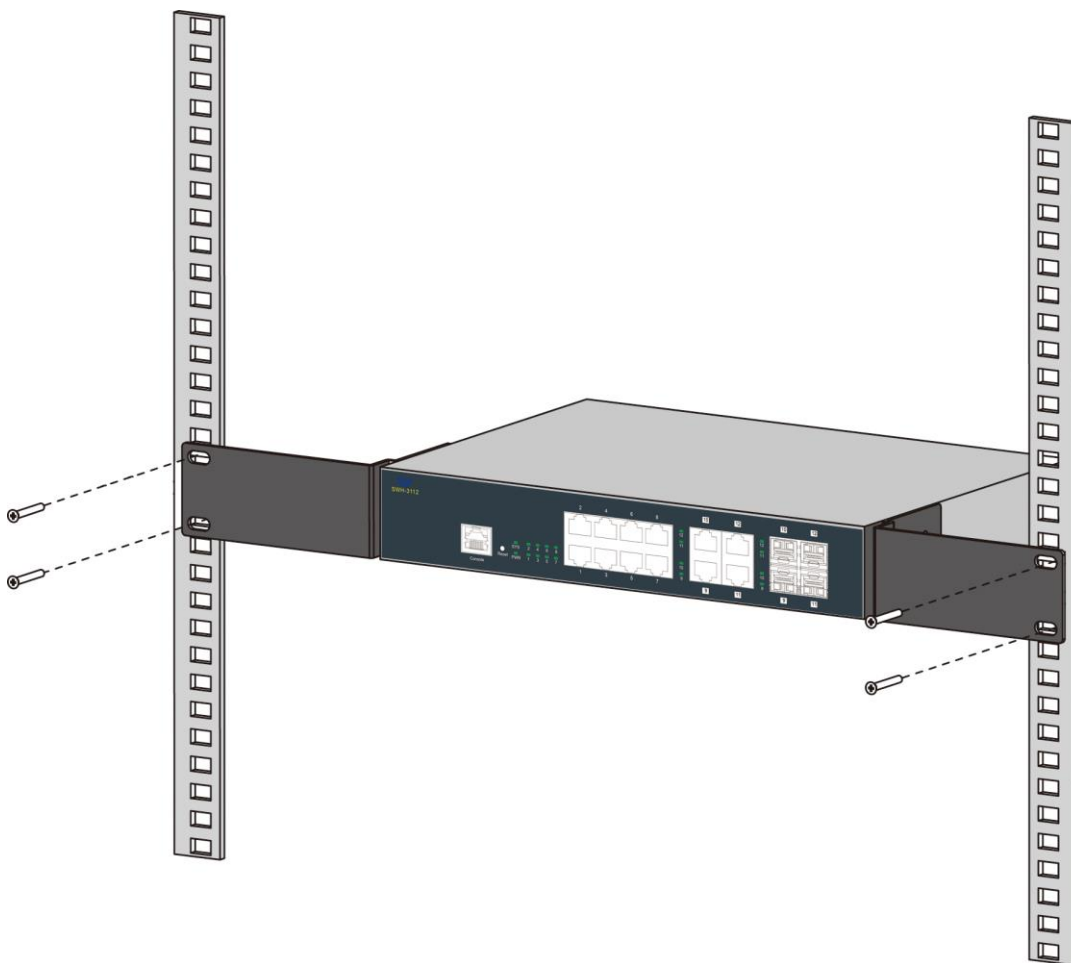

Figure 2-2. SWH-3112 Switch Rack-mounting
- Step 4.** Align the mounting holes in the brackets with the desired holes in the rack, and insert screws through each bracket and into the rack. (See Figure 2-2)